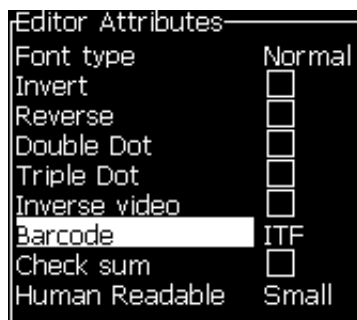

Figure 5-55: Select the Type of Barcode
- 2 Press the *F3* key or *ALT + E* and select *In-line Attributes* to open the *Editor Attributes* screen (see Figure 5-55).